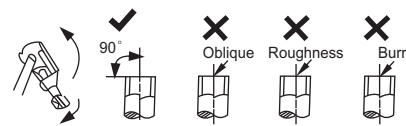

Fig. 5 – Cut the Pipe
2. Cut the pipe, with a pipe cutter, at 90° (see Fig. 5).